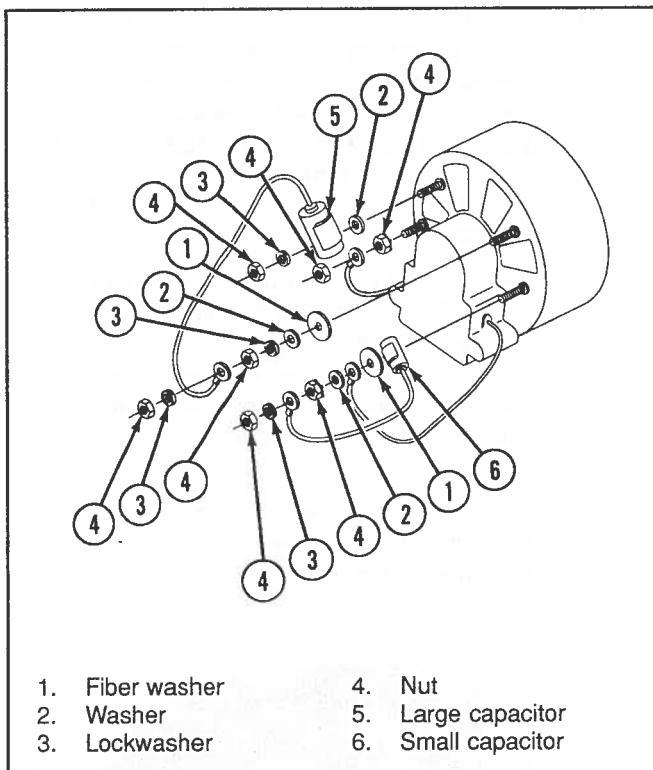

Figure 6-110. Rear End-Frame Fasteners
9. Guide rear end-frame onto diode trio and rectifier-diode-set studs, then install condenser, insulating washers, flat washers, lockwashers and nuts (Figure 6-110). Tighten nuts to specifications.